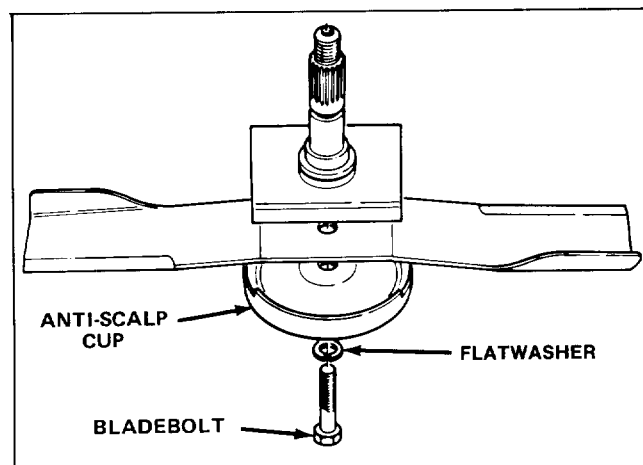

Figure 22
2. Grasp end of blade using a rag or thickly padded glove. Remove bladebolt, flatwasher, antiscalp cup and blade from spindle shaft (Fig. 22).